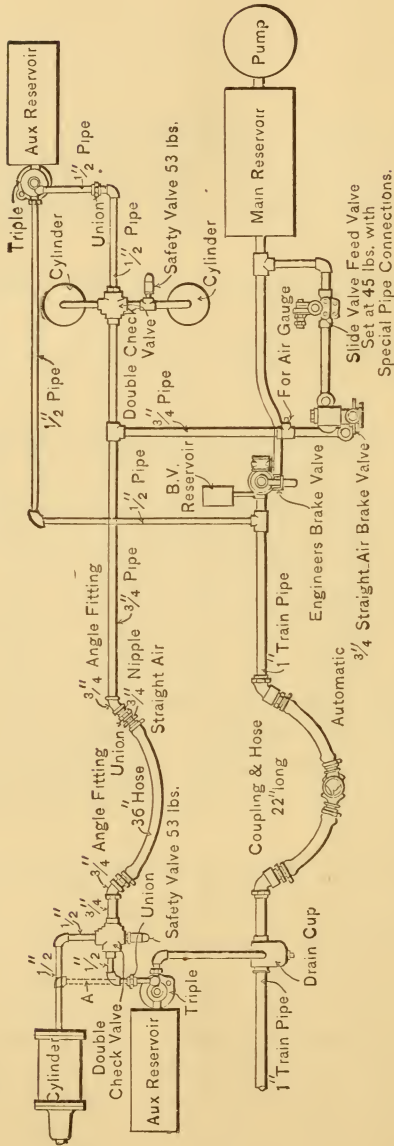
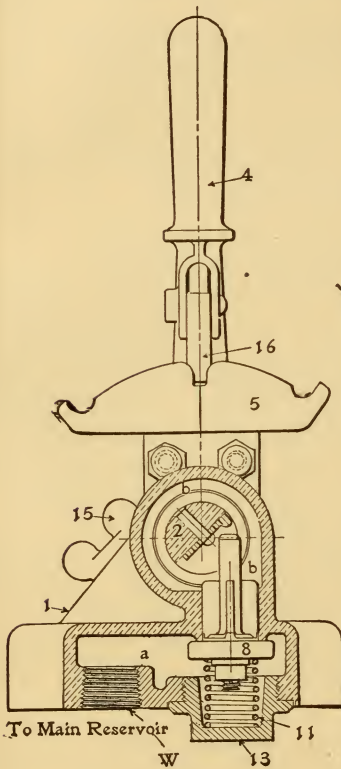
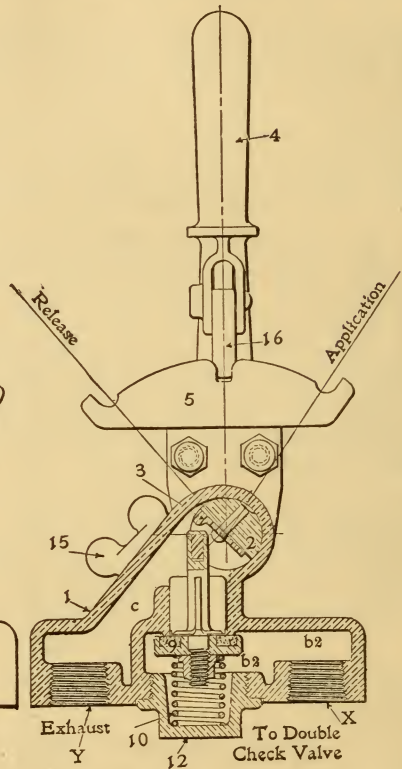

FIG. 62.—WESTINGHOUSE COMBINED AUTOMATIC AND STRAIGHT-AIR BRAKE.
FIG. 64.
FIG. 65.
A. As illustrated in Fig. 62, it is necessary to apply on the engine a Slide-Valve Reducing-Valve, a $\frac{3}{4}$ " Straight-Air Brake Valve, a Safety Valve set at 53 pounds, and a double check valve. On the tender the additional parts consist of a double check valve, a safety valve set at 53 pounds, and one $\frac{3}{8}$ -inch hose, with union, angle fittings and nipples.
Q. What is the object of the safety valve (Fig. 62)?
Q. What is the valve shown in Figs. 64, 65, 66, 67 and 68, and with what is it used ?
A. Fig. 66, a side view of the outside of the valve; the view (Fig. 68) is a horizontal cross-section through *FF* (Fig. 66); Fig. 67 is a vertical cross-section; Fig. 64, an end section showing the valve that controls the flow of pressure coming from the main reservoir; and Fig. 65 is an end section through a plane which permits the valve controlling the exhaust to be seen.
A. By the handle 4 acting through the shaft 2. As the handle is moved the shaft starts to rotate, thus causing one of the tappet pieces 3 (Figs. 64 and 65) to engage the stem of either valve 8 or 9, according to the direction in which handle 4 is moved. If moved to the right (Fig. 65) valve 8 is unseated; if moved to the left valve 9 (Fig. 65) is unseated. The shaft, as shown in Figs. 64, 65 and 67, is cut away in two places; at the bottom of each of the slots a tappet piece is fastened with two rivets.
A. As shown in Fig. 65 it is on lap; moved to the right it is in application or service position; and to the left it is in release position.
A. It has three and, as indicated, they connect with the main reservoir at *W*; the trainpipe, or the one leading to the double check valve, at *X* (Fig. 65); and to the exhaust at *Y*.
A. When the valve handle is moved to the right the tappet piece in the shaft engages the stem of valve 8, forcing the valve from its seat against the pressure beneath it and the tension of spring 11. Air which comes from the main reservoir through the reducing valve (Fig. 62) enters the brake valve at *W* (Fig. 64) and passes up by the unseated valve 8 into chamber *b*, thence through port *b*¹ (Fig. 67) into chamber *b*² and out at *X* (Fig. 65) into the pipe which leads to the double check valves (Fig. 62), and through these valves to the brake cylinders.
A. Spring 10 (Fig. 65), together with the pressure in chamber *b*², forces valve 9 to its seat and it thus prevents the escape of air to the atmosphere.
A. Valve 9 is forced from its seat and air from the brake cylinder comes back through the double check valves (Fig. 62), enters at *X* (Fig. 65) into chamber *b*², passes by the unseated valve 9 into chamber *c*, thence to the atmosphere at *Y*, and thus releases the air from the brake cylinders.
A. Release position; so placed any slight leakage of main reservoir pressure by the seat of valve 8 (Fig. 64) can not creep on the brakes, since the air would escape direct to the atmosphere by the unseated valve 9.